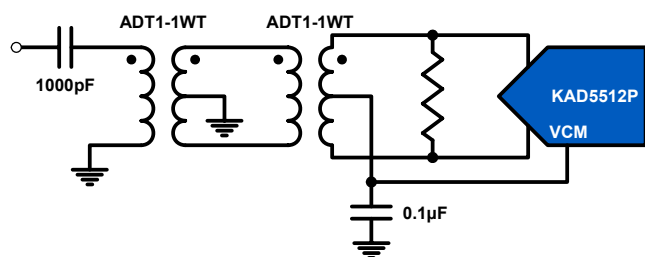

FIGURE 27. TRANSFORMER INPUT FOR GENERAL PURPOSE APPLICATIONS
Best performance is obtained when the analog inputs are driven differentially. The common-mode output voltage, VCM, should be used to properly bias the inputs as shown in Figures 27 through 29. An RF transformer will give the best noise and distortion performance for wideband and/or high intermediate frequency (IF) inputs. Two different transformer input schemes are shown in Figures 27 and 28.